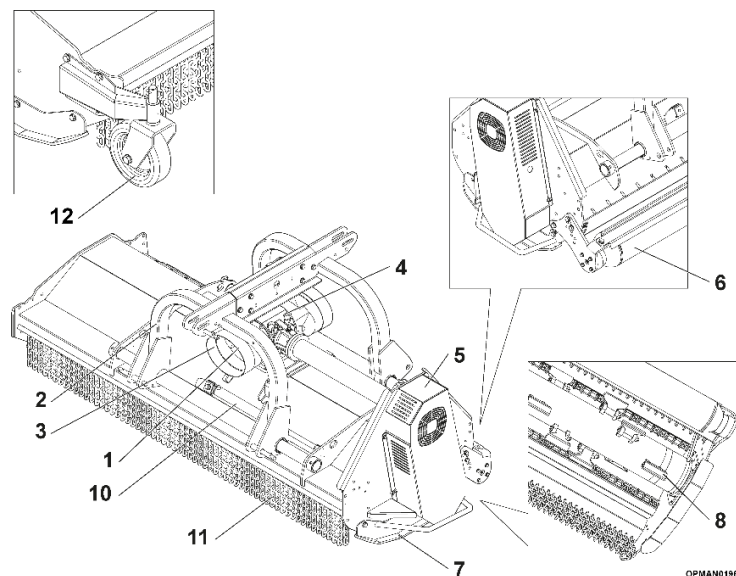

Figure 1
With reference to Figure 1, the Mower consists of a machine designed and built exclusively for maintenance of green areas or mowing directly on site by mulching crop residue. It can be used to mow twigs, corn, pruning residue, planting in general, weeds, etc. forwards as well as backwards. It must not be used for other purposes or with other materials.
The Mower (Figure 1) consists of a closed steel cowl structure in which a rotor shaft with flails is installed (8) and, on the rear side, a rear roller (6) to compact the terrain following the mowing phase. The frame (2) is structured so as to allow the machine to work forwards as well as backwards, with the three-point hitch able to be attached to the tractor from both sides. The lower front part is protected by a number of sheet metal flaps (9) and a number of chain links (11) which prevent the soil and/or fragments of plants from being projected outwards. The Mower is powered by the supporting agricultural tractor engine by connecting the gearbox (4) to the PTO of the tractor itself with the input PTO shaft. The gearbox allows a pre-set number of revolutions to be reached for the rotor shaft to rotate via a pulley and belt lateral transmission system (5).